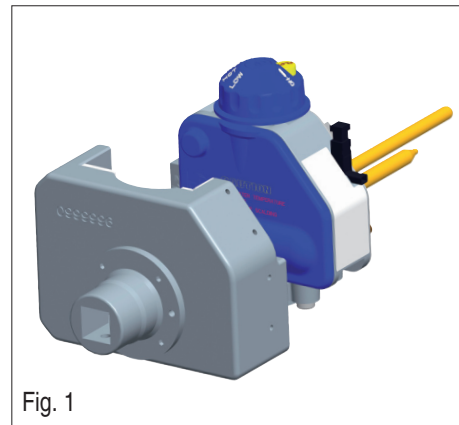
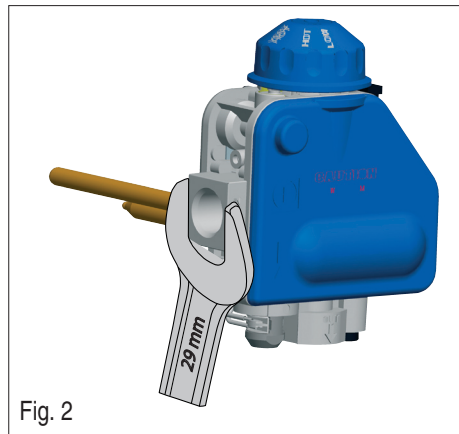

Fig. 1
Fig. 2
5. Connect pipe to valve inlet and outlet. Place wrench on valve in position (see Fig. 2). Tighten inlet connection to 30 ft·lbs torque, outlet connection to $20 \div 10$ ft·lbs torque.
Use only specified spanner grips when making the connections (see Fig. 1 and Fig. 2).